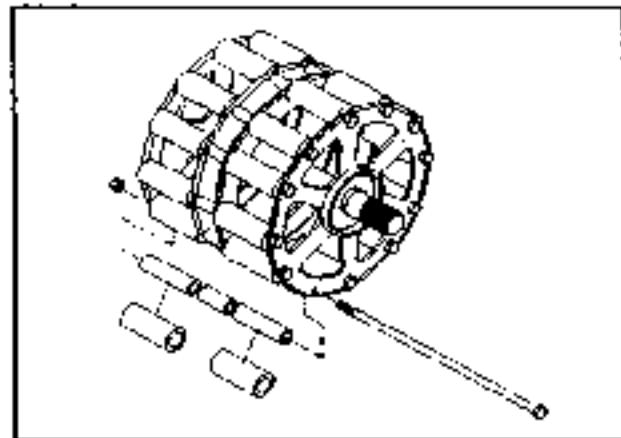

FIG 54
- 1) Assemble the drive sprocket as shown in FIG 54. Be sure to insert drive tooth bolts from the splined end of the shaft. Reversing the bolts could cause an interference with the back side of the chain case.